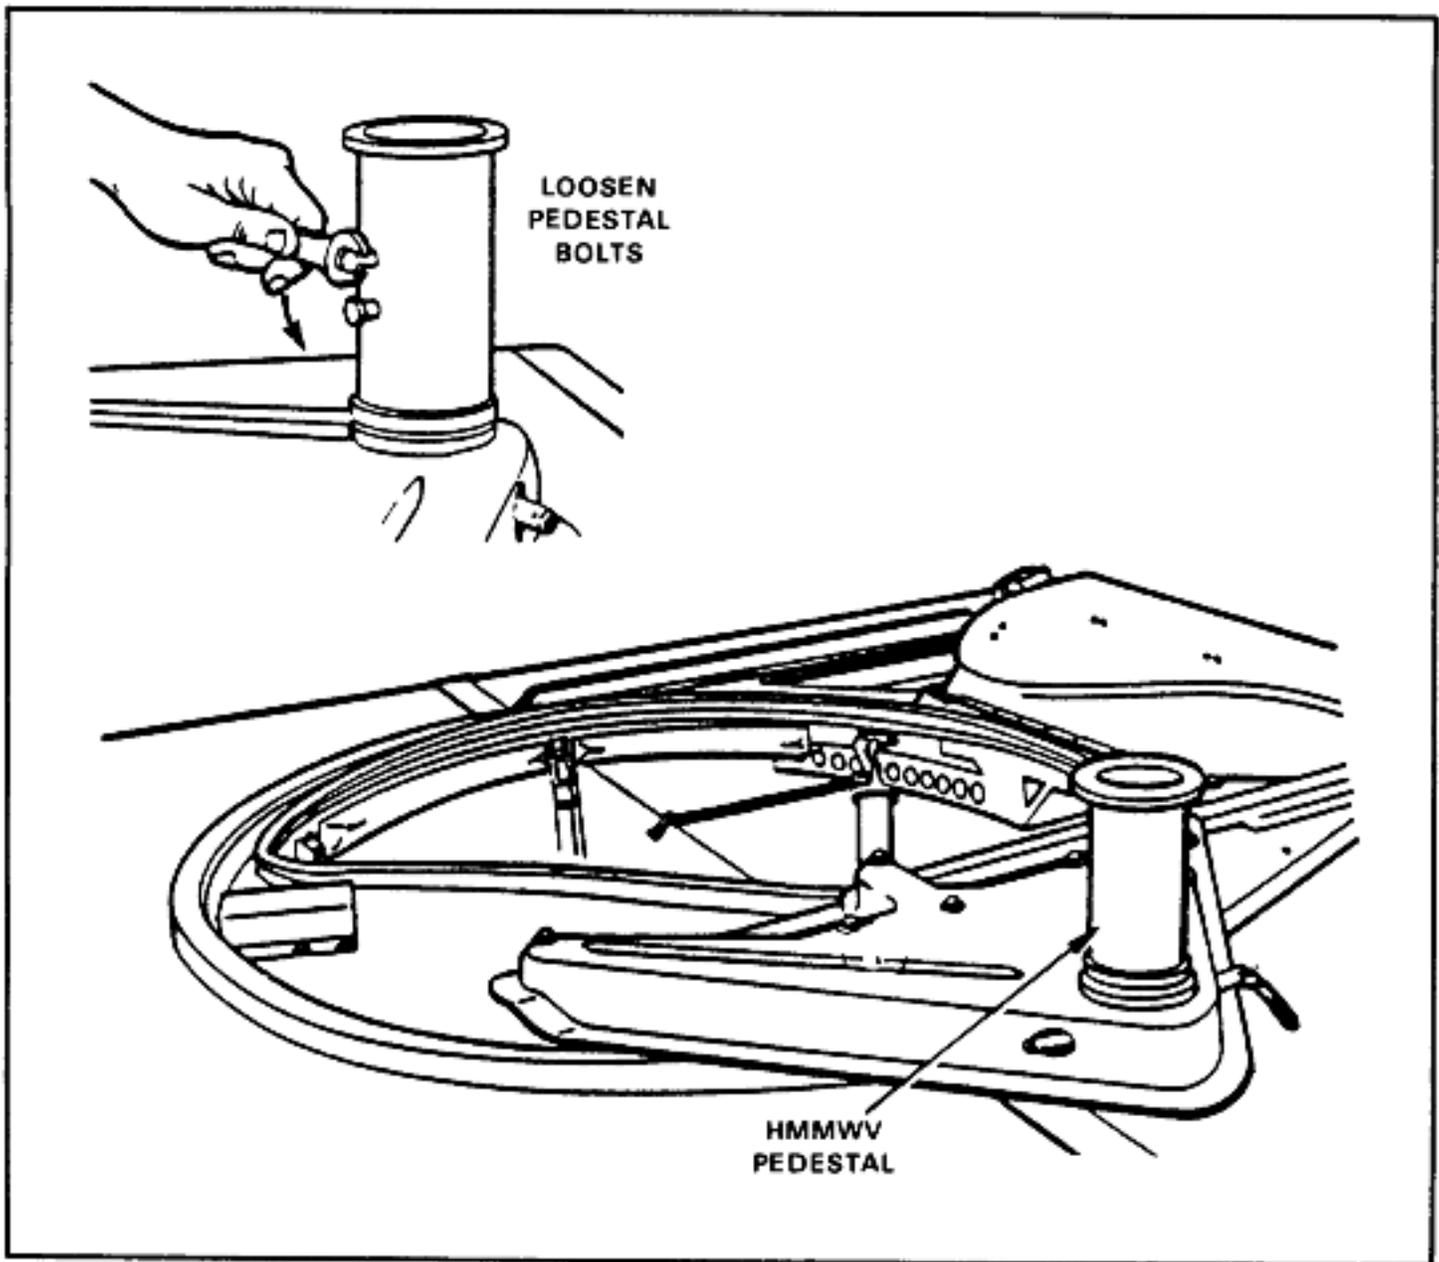

Figure 3-27. HMMWV pedestal.
(2) HMMWV weapon platform (Figure 3-27). To mount the MK 19 on the HMMWV weapon platform, loosen the locking bolts on the side of the HMMWV PEDESTAL WITH A 9/16" wrench. Insert the pintle adapter into the pedestal and tighten the bolts with the wrench. Pull up on the pintle adapter to ensure it is installed securely. Attach the train and elevating assembly to the HMMWV pedestal. Mount the MK 19 and attach the bracket mounting assembly. Attach the empty case catch bag.